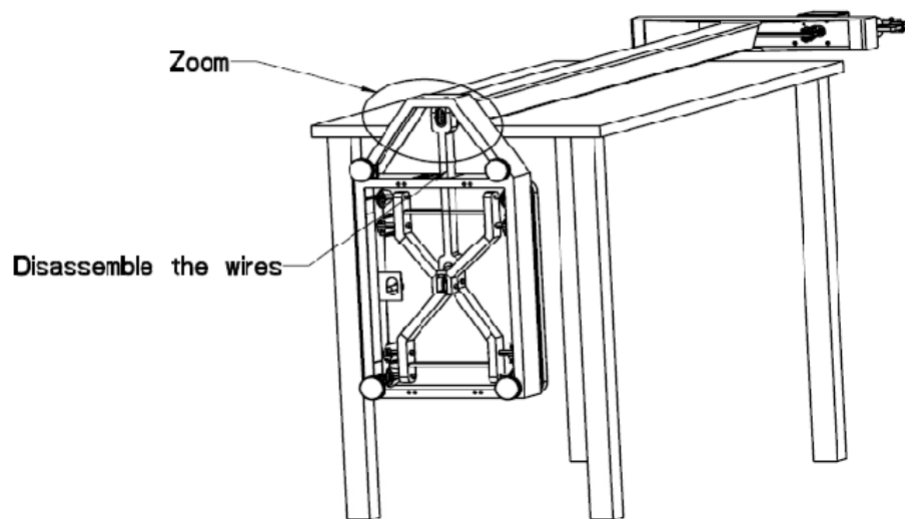

Fig. 4 - Connection of the steelyard
1. Place the pillar on a table (Fig. 4).